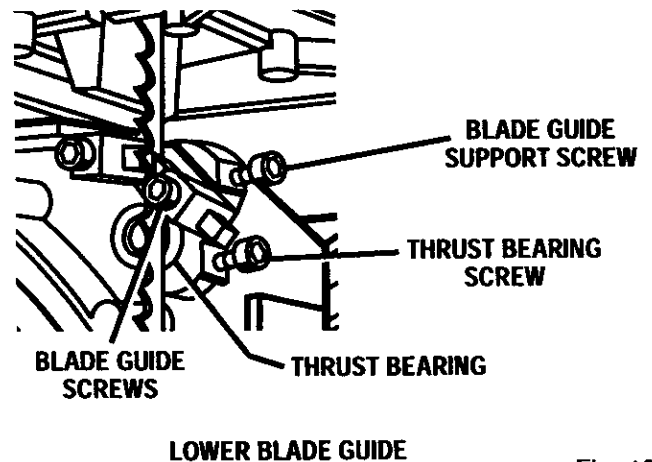

Fig. 19
Note: The lower blade guide support screw is the top screw located on the right of the saw frame under the table. See Figure 19.
- Repeat this procedure on the lower blade guides located under the table. See Figure 19.